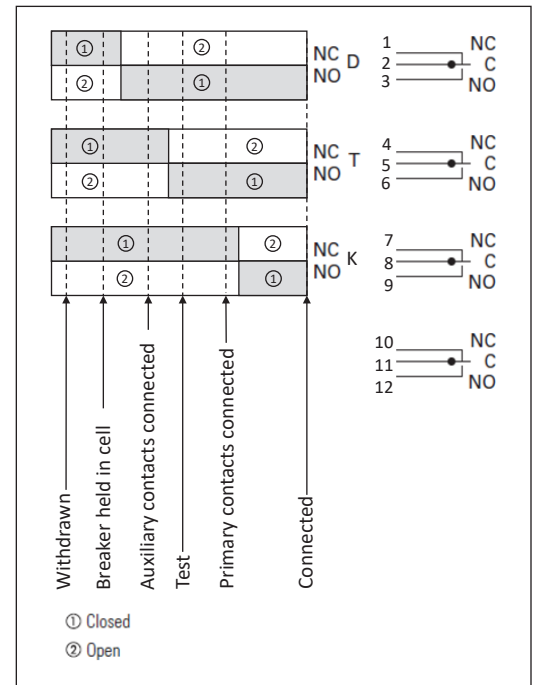

Figure 1. Cell switch wiring diagram
The cassette cell switch is a compartment position switch for drawout circuit breakers. Each cell switch assembly consists of four form C switches operated by a common actuator. The wiring diagram in **Figure 1** illustrates the switch contacts in the normal (unactuated) position with the breaker fully withdrawn. As the breaker is levered into the cassette, the switches change state. Switch packs can be placed in one or more of the three positions shown (**D**, **T**, or **K**), and are activated progressively as the breaker reaches the insertion position shown in **Figure 1**.
Step 6: Verify that the cell switches operate as described in Figure 1. Beginning in the WITHDRAWN position with the levering mechanism indicating DISCONNECT, switch contacts D operate after the drawout breaker levering mechanism begins advancing a few turns toward TEST and has engaged the cassette to retain the breaker in the cell. Switch T contacts operate after the secondary connectors mate, as the breaker approaches the TEST position. Switch contacts K operate before the breaker reaches the CONNECT position.